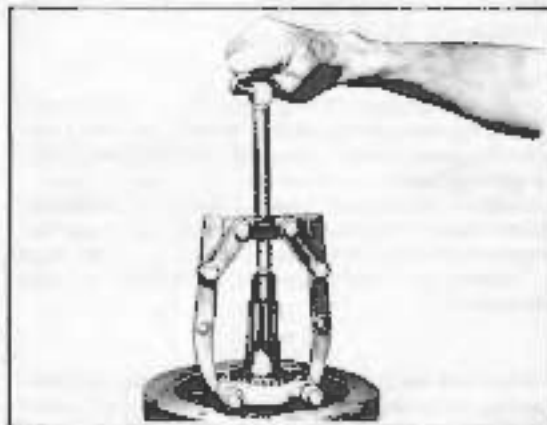

Figure 3-40. Pulling Bearing from Sprocket Shaft
**WARNING** — When removing lock ring (12), there is a possibility that it will spring from the groove with enough force to cause personal injury. To prevent this, wrap rag around crankcase and through lock ring.
9. If flywheels are to be disassembled, grip pinion shaft in vise and pull bearing from sprocket shaft using claw puller and wedge attachment. Place wedge halves behind bearing and pull bearing off by tightening puller screw against sprocket shaft center as shown in Figure 3-40. Keep bearings in a set with proper bearing outer races.